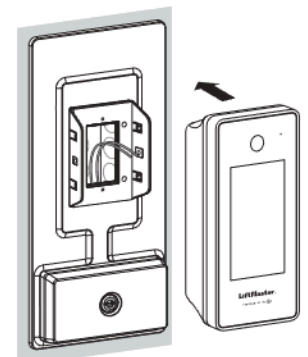

Figure 4
8. Follow CAPXS manual to finish the installation. (See Figure 4)